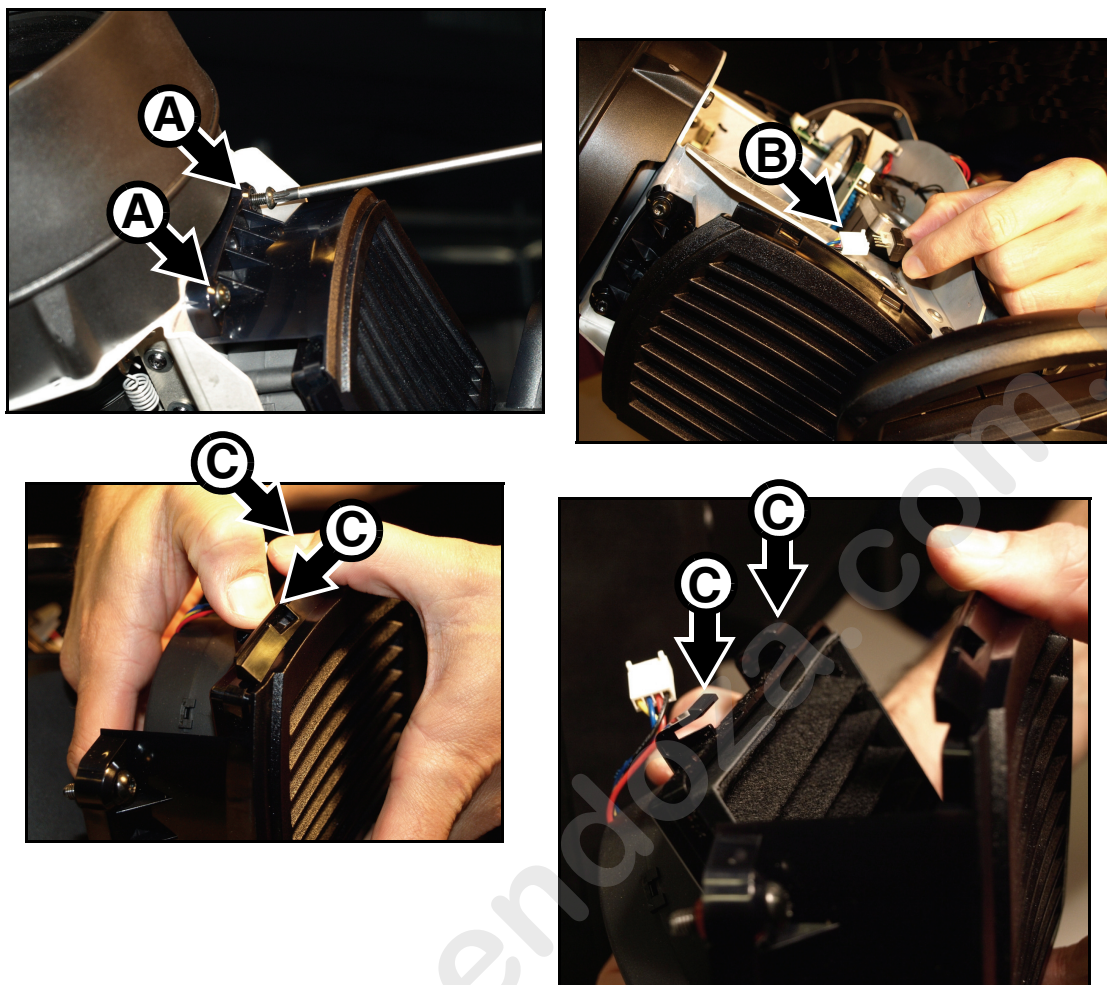

Figure 14: Head air filter removal
3. See Figure 14. Loosen the two captive Torx 25 screws **A** at the front end of the filter housing until the screws turn freely.
8. See Figure 14. Hook the side of the cover opposite the clips **C** into the housing and then press the cover onto the housing, checking that the clips snap into the housing and that the cover is located correctly with no gaps where air could bypass the filter.